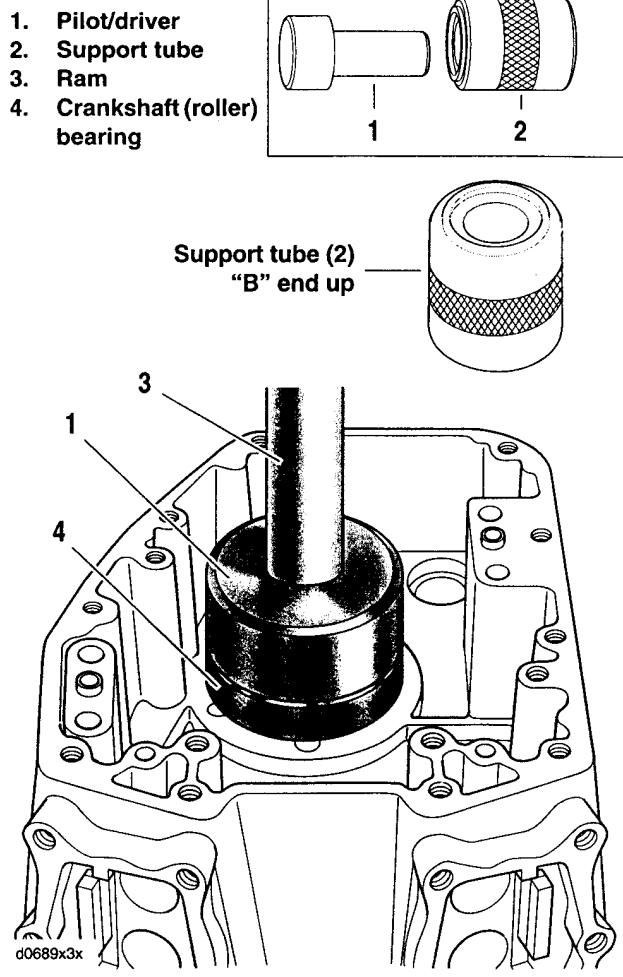

Figure 3-155. Crankshaft (Roller) Bearing Installation
1. See Figure 3-155. Obtain CRANKSHAFT (ROLLER) BEARING REMOVAL/INSTALL PILOT/DRIVER (Part No. B-45655) and CRANKSHAFT (ROLLER) BEARING REMOVAL/INSTALL SUPPORT TUBE (Part No. HD-42720-5).
2. Obtain new crankshaft (roller) bearing (4). Spread a thin film of clean engine oil on O.D. of new bearing.
3. Turn support tube (2) over so that the "B" end is up. The sides of the support tube are stamped "A" and "B" to ensure proper orientation.
6. Slide pilot(driver) (1) through bearing into support tube.
7. Center pilot(driver) under ram (3) of press. Apply pressure to pilot(driver) until resistance is felt and bearing is bottomed on the support tube.